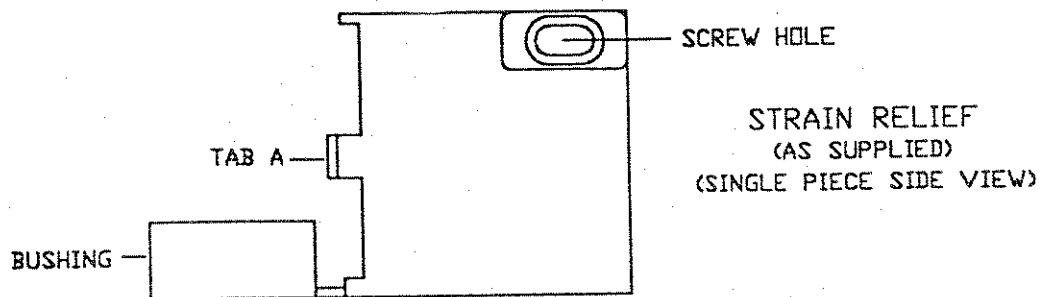

Figure 2.5-5 Strain Relief (1 piece)
1. Snap off the rectangular bushing attached to each piece of the strain relief. See Figure 2.5-5.